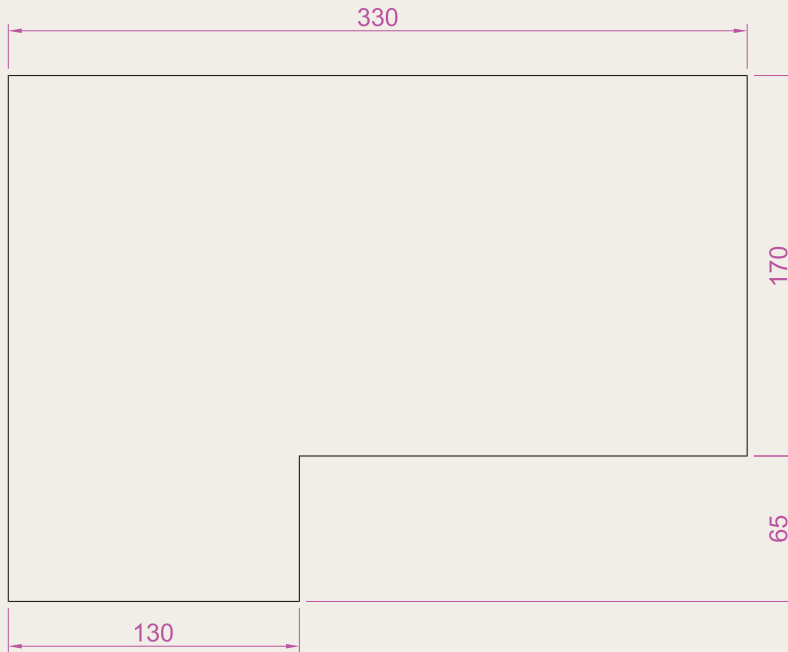
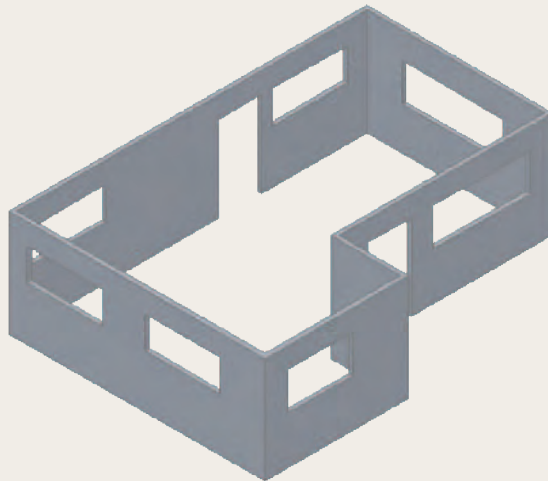
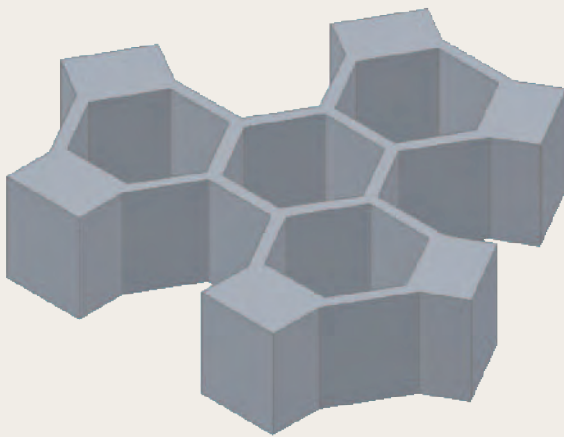

Fig. 12.45 Exercise 1 – outline for polyline
Fig. 12.46 Exercise 1
Fig. 12.48 Exercise 3
1. Figure 12.45 shows the pline outline from which the polysolid outline of Fig. 12.46 has been constructed to a height of **100** and **Width** of **3**. When the polysolid has been constructed, construct extrusions can then be subtracted from the polysolid. Sizes of the extrusions are left to your judgement.
3. Figure 12.48 shows the 3D model from Exercise 2 acted upon by the **Presspull** tool, which can be called by *entering Presspull* at the command line. With the 3D model from Exercise 2 on screen and using the **Presspull** tool, construct the 3D model shown in Fig. 12.46. The distance of the pull can be estimated.